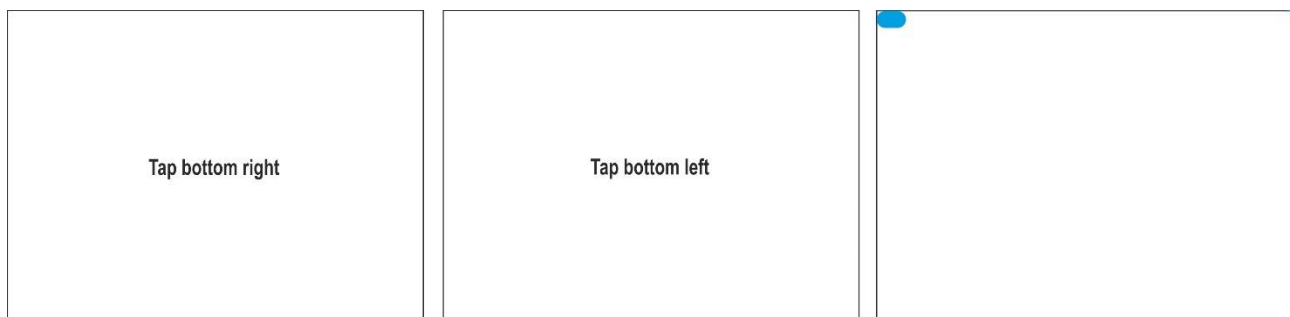

Fig. 11: Touch screen calibration screens – Bottom part
3. The message "Tap bottom right" appears on the instrument. Touch the bottom of the screen near the light blue indicator on the right corner (see Fig. 11 – left part)
4. The message "Tap bottom left" appears on the instrument. Touch the bottom of the screen near the light blue indicator in the left corner (see Fig. 11 – middle part)
5. When the operations are finished, the instrument displays the screen in Fig. 11- right side